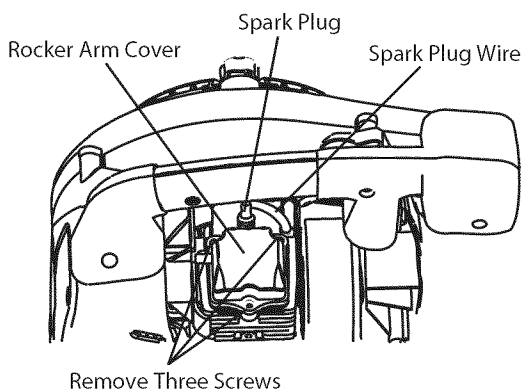

Fig. 23
7. Remove the rocker arm cover and gasket (Fig. 23).